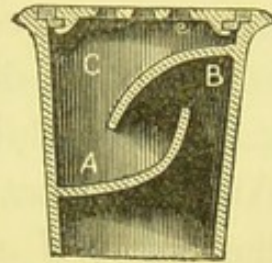

FIG. 3. SECTION.
*Antill's Patent Trap.*—Fig. 3. This is a great improvement upon the bell-trap, and by the arrangement of its water-dip it remains as much trapped with the grating off as on. But it is far from what a water-trap should be: the water-dip is insufficient to shut out any strong current of air in the waste-pipe, and from the peculiarity of its construction it is not self-cleansing; any sediment getting into the compartment A, Fig. 3, is almost sure to remain there, and the compartment B cannot be got at to be cleaned out, and the covering over this compartment makes a lodgment for grease and dirt; also there is no free passage for water to pass through the trap quickly. The partitions are soldered with copper-bit, and the lead is too thin to last long.